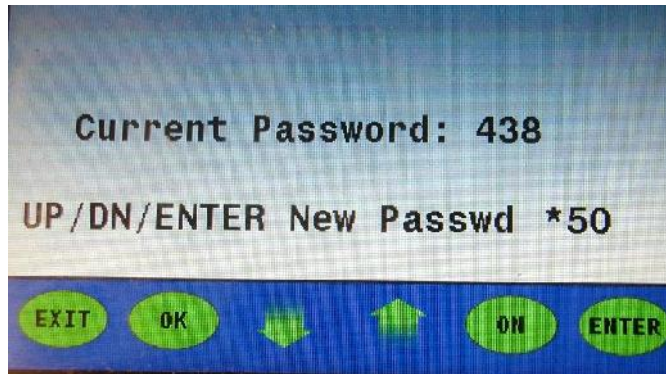

Figure 16
- Press “ENTER” and a (*) will be loaded into the first digit and the second digit “0” will start to blink **(Figure 16)**